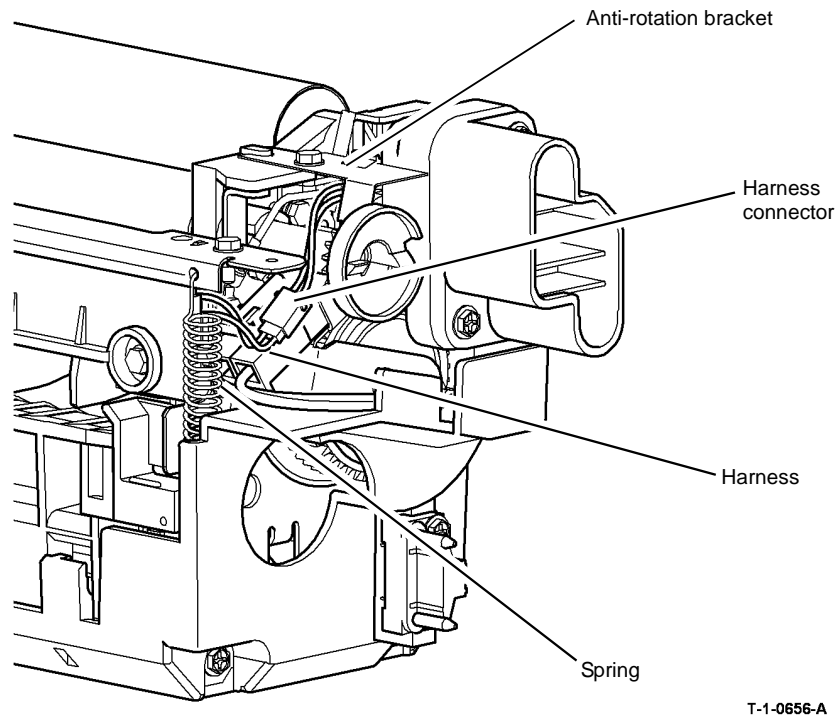

Figure 4 Harness location 65-90 ppm
2. On 65-90 ppm machines, make sure that the harness and the connector are routed away from the spring, Figure 4.
3. On all machines. Check for 5mm clearance between the anti-rotation bracket and the heater lamp wires, Figure 4. Inspect the heater lamp wires for damage. If the wires are damaged install a new fuser module.